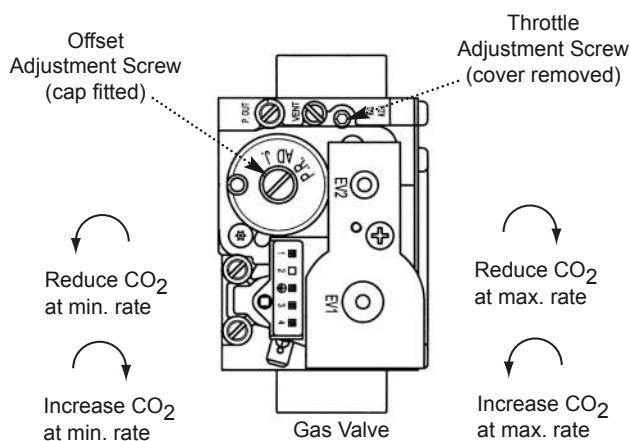

Fig. 61
4. Check the CO2 is 9.3%  $\pm$  0.1%. If the CO2 is incorrect alter the Throttle Adjustment Screw (Fig. 61). Turn the screw anticlockwise to increase the CO2 or clockwise to decrease (2.5mm hexagon key).
6. Check the CO2 is 8.9%  $\pm$  0.1%. If the CO2 is incorrect alter the Offset Adjustment Screw (Fig. 61). Turn the screw clockwise to increase the CO2 or anticlockwise to decrease (4mm hexagon key).